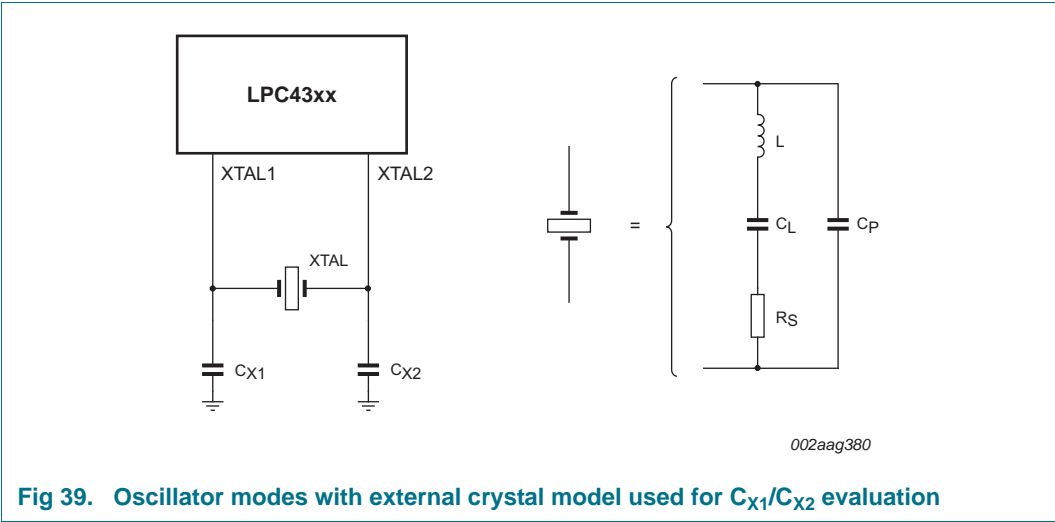

Fig 39. Oscillator modes with external crystal model used for CX1/CX2 evaluation
- External components and models used in oscillation mode are shown in Figure 39, and in Table 33 and Table 34. Since the feedback resistance is integrated on chip, only a crystal and the capacitances  $C_{X1}$  and  $C_{X2}$  need to be connected externally in case of fundamental mode oscillation ( $L$ ,  $C_L$  and  $R_s$  represent the fundamental frequency). Capacitance  $C_P$  in Figure 39 represents the parallel package capacitance and must not be larger than 7 pF. Parameters  $F_C$ ,  $C_L$ ,  $R_s$  and  $C_P$  are supplied by the crystal manufacturer.